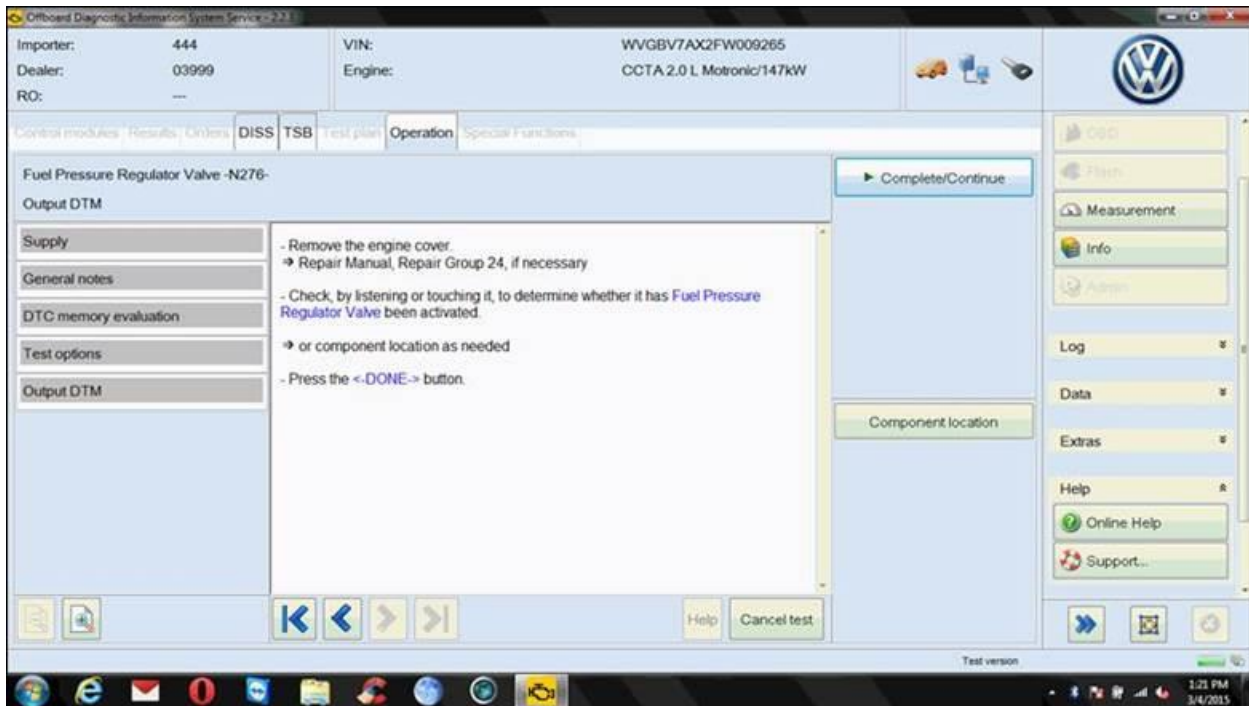

Figure 2
- Highlight “N276 – Fuel Pressure Regulator Valve” test plan and select “Perform Test”, and select Complete/Continue (Figure 2).